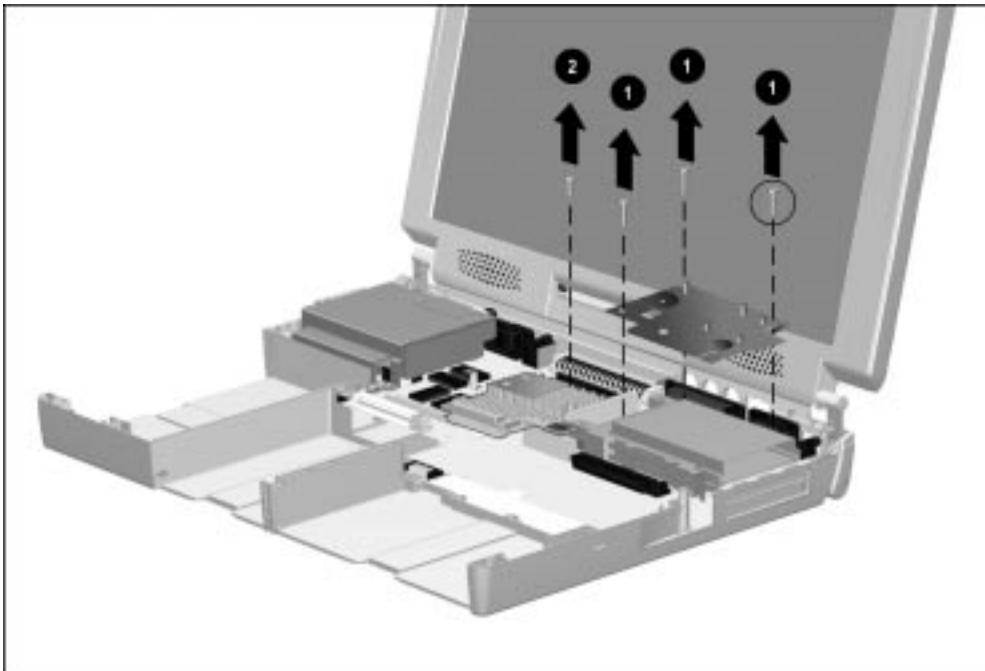

Figure 5-41. Removing the Audio Assembly Bracket
6. Remove the three screws ❶ that secure the audio assembly bracket to the system board and the screw ❷ that secures the audio assembly bracket to the processor module assembly (Figure 5-41).